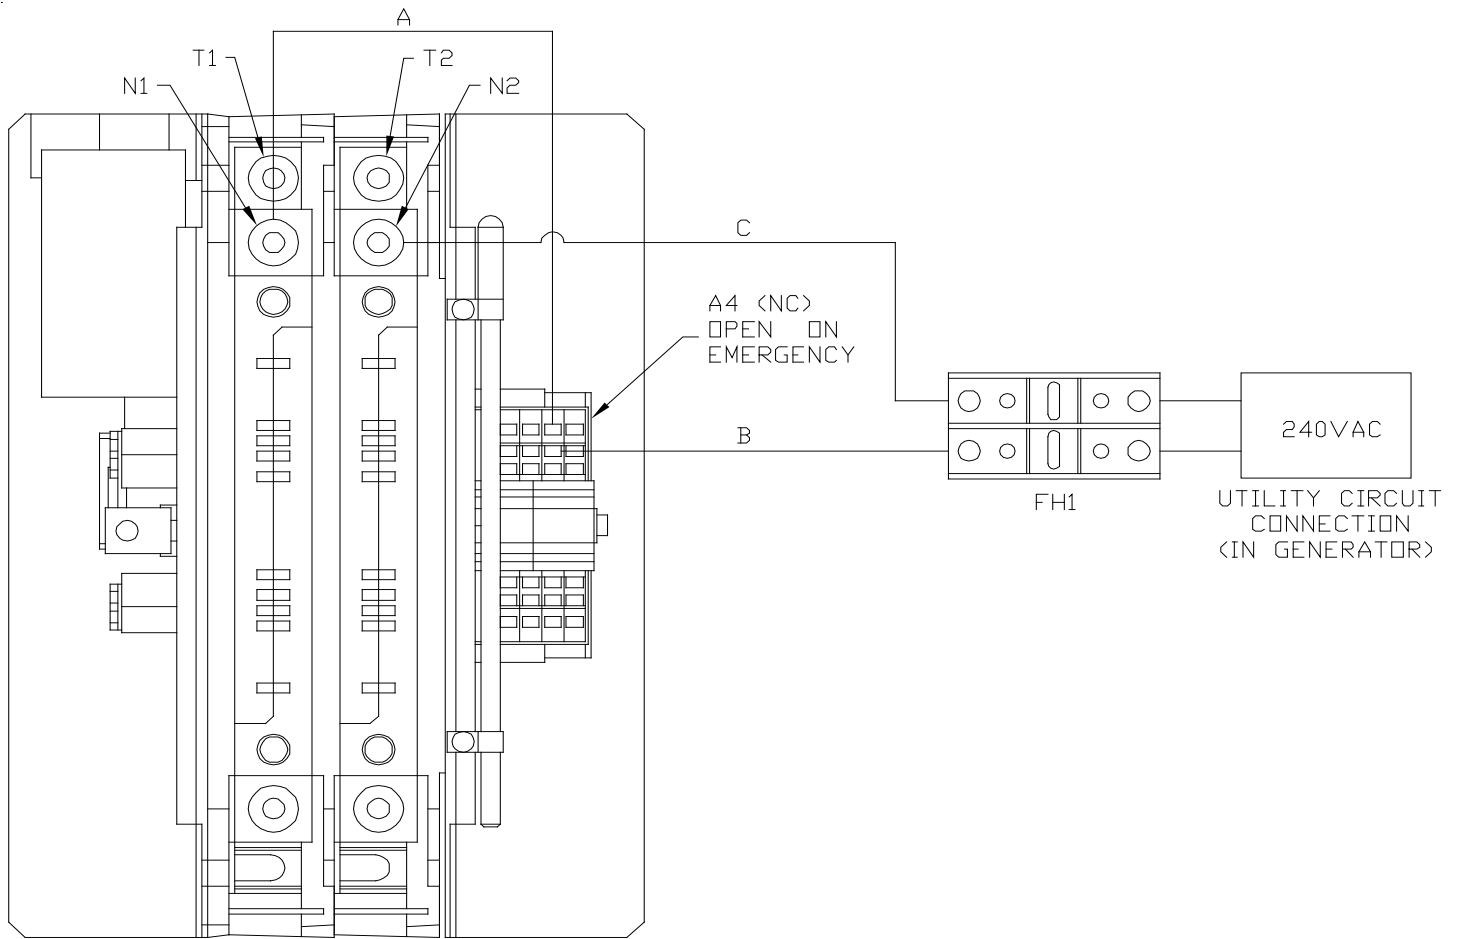

Figure 3 - GE Wiring Diagram
For the following connection procedure, refer to GE Wiring Diagram (Figure 3, page 2); to the generator installation manual; and to the manual packed with the GE Transfer Switch.
8. Connect ring lug end of Wire Assembly C to fuse holder (FH1). See Figure 3.